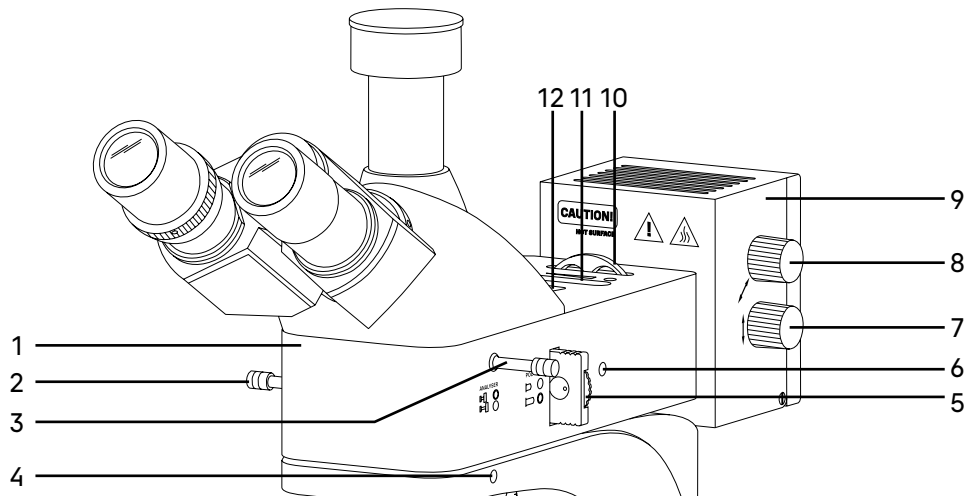

Fig. 4. Reflected light illuminator
The reflected light illuminator is shown in Fig. 4.
The illuminator body 1 (Fig. 4) is mounted on top of the stand and secured with the screw 4 (Fig. 4) using an Allen wrench. The illuminator body houses:
- a polarizer/analyzer set: rotating polarizer 5 (Fig. 4) and built-in analyzer 3 (Fig. 4)
- a field diaphragm 12 (Fig. 4) and an aperture diaphragm 11 (Fig. 4)
- a fixed ring with a color filter set 10 (Fig. 4) that has five positions, including a free slot and 4 filters: frosted glass, yellow, green, and blue
- a brightfield/darkfield switch lever 2 to enhance the contrast and image detail of samples, which allows for better viewing of their microstructure (The brightfield mode provides a clear magnification of the object. The darkfield microscopy allows the user to observe a sample in scattered light which delivers high-contrast images of grain boundaries and surface defects not visible in the bright field). To enable the darkfield microscopy, pull out the brightfield/darkfield lever 2 (Fig. 4) to position  D F; for the brightfield observations, make sure that the lever is in the pushed-in position  B F.
The polarizer 5 (Fig. 4) is located in the illuminator between the light source and objectives. The polarizer has two positions: free slot and polarization filter. The polarizer rotates 0–360°. It should be inserted all the way in to be introduced into the optical path. Polarized light is transmitted through the objective to the specimen.
The analyzer 3 (Fig. 4) is located between the objective and the microscope head. The analyzer has two positions: free slot and polarization filter. It should be inserted all the way in to be introduced into the optical path.
The lamphouse 9 (Fig. 4) is secured to the illuminator 1 (Fig. 4). Inside the lamphouse is the light source – halogen bulb. The bulb is centered on three axes by the knobs 15 (Fig. 2) and 7, 8 (Fig. 4).